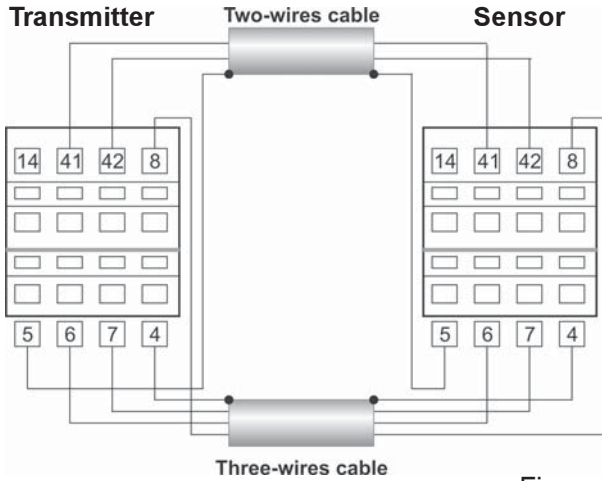

Figure 23
12.1.1 Connection between transmitter and sensor (Fig.23)
Display function with two-line display is shown as figure 23. The upper line is main display with flowrate, velocity, percentage of the full-scale flowrate, percentage of conductivity and alarm message. The lower line displays counter.